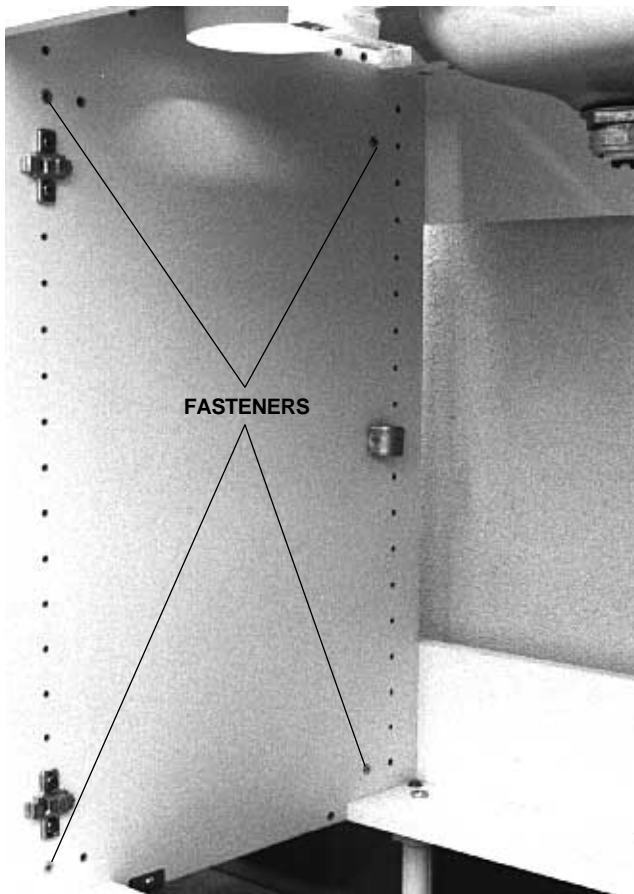

FIGURE 9
7. Install the fasteners through the wall of the small lower module, into the barrel connectors, as shown in Figure 9. Tighten the fasteners.